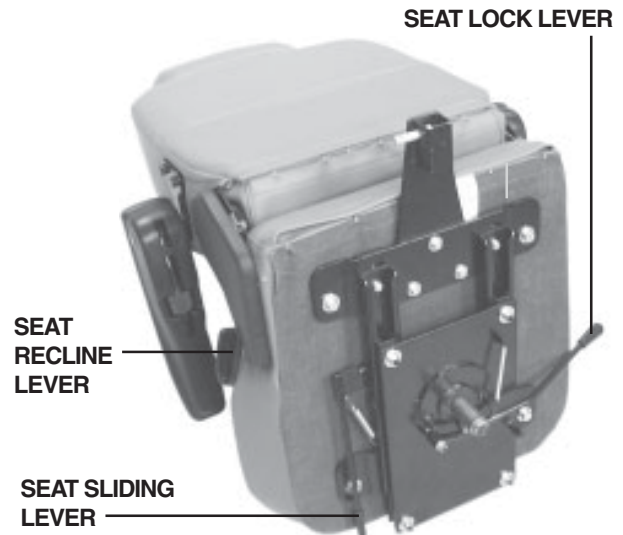

Figure 15. Seat Adjustments
You can reposition the seat forward or rearward to adjust the distance between the seat and the tiller. See figure 15.
The seat lock lever locks the seat in one of eight positions. See figure 15.
1. Pull up on the seat recline lever to unlock the seatback. See figure 15.